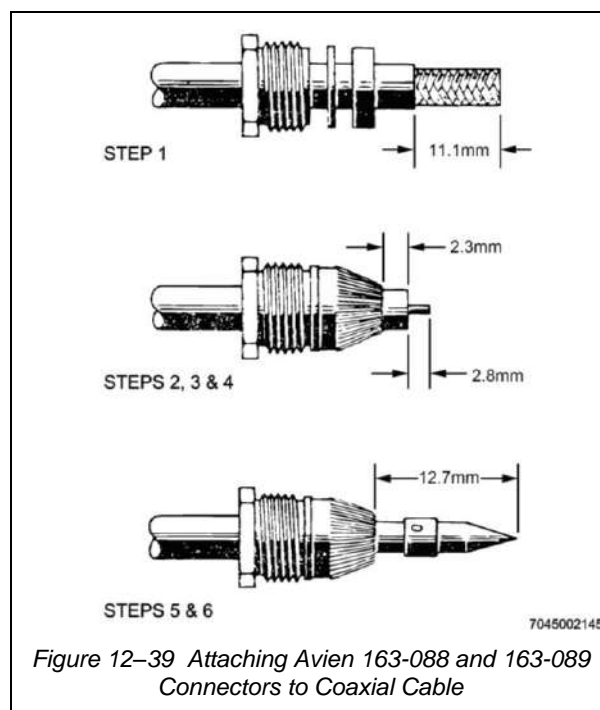

Figure 12-39 Attaching Avien 163-088 and 163-089 Connectors to Coaxial Cable
33. For assembly of Avien 163-088 and 163-089 connectors to RG-58A/U coaxial cables, (see Figure 12-39), use the following procedures:
- e. Slide contact onto conductor, and check that there is no exposed conductor between the insulation and the contact solder hole. Check that the distance from the braid to the end of the contact is 12.7mm, as shown in Figure 12-39.